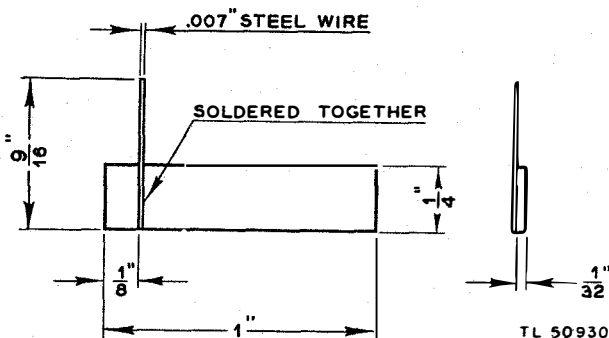

Figure 77. Pen cleaner (4G-72).
a. Loosen the two screws (235) and push the tape bridge adjustment bracket (213) back to clear the screw heads.
b. Remove the tape bridge by grasping the bridge at each end and lifting it up off the tape bridge hinge pin (216).
d. Remove the old pen from the bushing (268) with a pair of tweezers, being careful not to change the position of the bushing in the pen arm. Remove the bushing only when cleaning the pen arm.
g. Remove the soldering iron and run the pen cleaner tool (fig. 77) through the new pen to make sure the pen is clear.